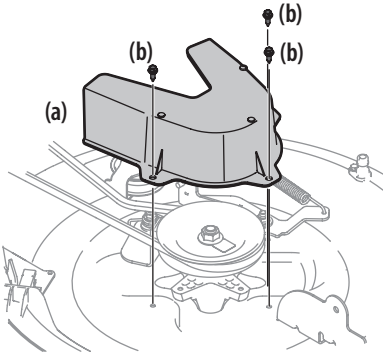
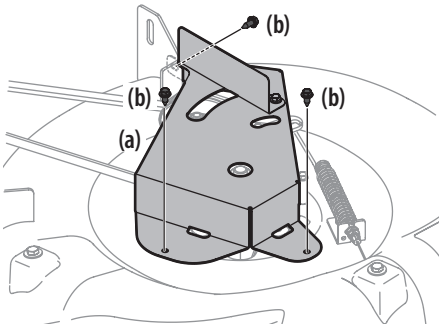

Figure 34
Figure 35
5. Remove the deck belt cover (a) by removing the three hex bolts (b) that secure it. See Figure 34 for 30" decks and Figure 35 for 24" decks.